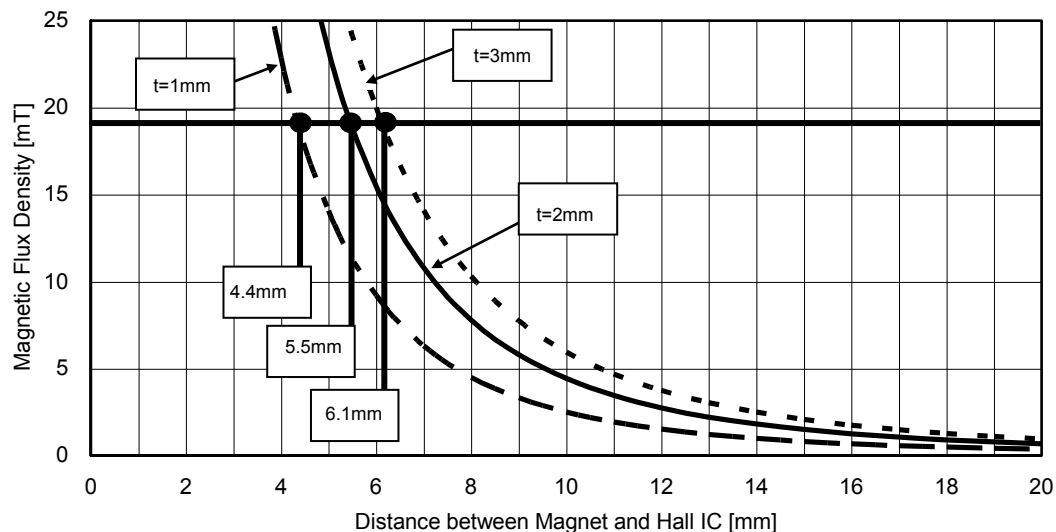

Figure 18. Magnetic Flux Density vs Distance between Magnet and Hall IC
Of the two representative varieties of permanent magnet, neodymium generally offers greater magnetic power per volume than ferrite, thereby enabling the highest degree of miniaturization, thus, neodymium is best suited for small equipment applications. Figure 18 shows the relation between the size (volume) of a neodymium magnet and magnetic flux density. The graph plots the correlation between the distance (L) from three versions of a 4mm x 4mm cross-section neodymium magnet (1mm, 2mm, and 3mm thick) and magnetic flux density. Figure 19 shows Hall IC detection distance – a good guide for determining the proper size and detection distance of the magnet. Based on the BU52077GWZ operating point max of 19.0mT, the minimum detection distance for the 1mm, 2mm and 3mm magnets would be 4.4mm, 5.5mm, and 6.1mm, respectively. To increase the magnet's detection distance, either increases the magnet's thickness or sectional area.